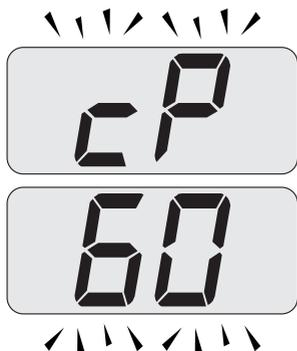

Fig. 9.14
- Press key 17 to vary the output in chimney sweep mode: when the LCD display displays the letters **CP** that alternate with the heating water temperature value (e.g. **60**), the "chimney sweep function" is at maximum (eventually range rated) output in heating mode (Fig. 9.14);